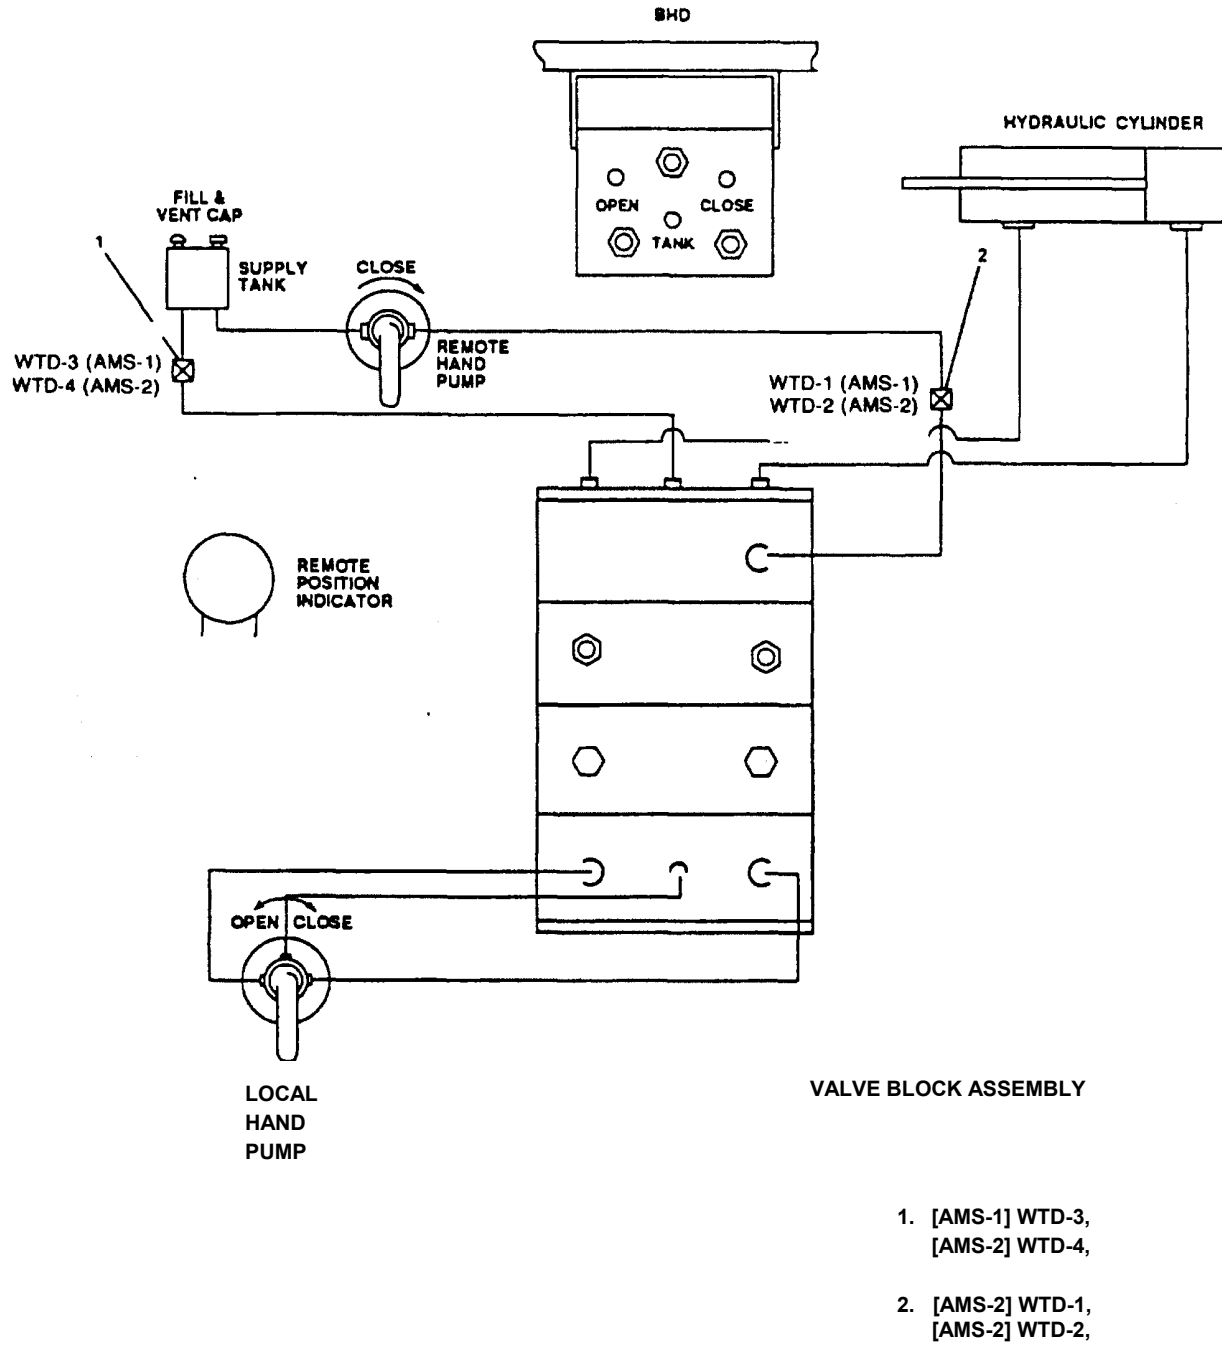

Figure 1-84. Hydraulic Sliding Door.
b. *Sliding Watertight Doors (Figure 1-84).* Two sliding watertight doors are provided, one between AMS 1 and the engine room, and another between AMS 2 and the engine room. These doors are used to seal off bulkheads in case of emergency. The doors are flamtight and watertight. They can be operated from a remote location or from either side of the door. The door is powered by a hydraulic cylinder. Power is supplied by the hand pumps. The hand pumps located on either side of the door control the opening and closing of the door, depending on the direction the hand pump is rotated. The remote location hand pump (main deck) can only close the door. A supply tank is mounted on the bulkhead near each hand pump. This tank provides hydraulic fluid necessary for the system.